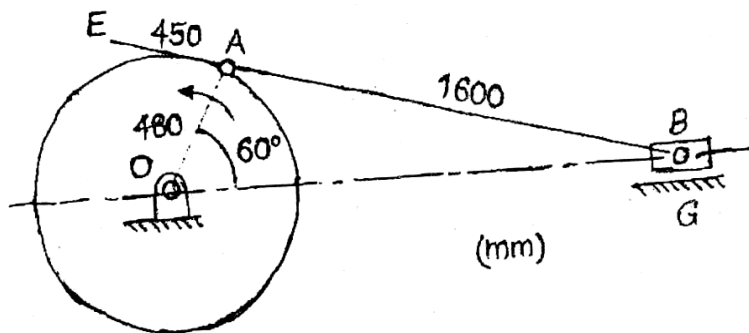

Fig. 12 (a)
- (b) (i) Explain mechanical advantage and transmission angle related to four bar mechanism. (8)
- (ii) Explain the Ratchet and Escapism mechanism with neat diagram. (8)
12. (a) For the configuration of a slider crank mechanism shown in fig.12 (a) Calculate (i) the acceleration of the slider at B (ii) the acceleration of point E (iii) the angular acceleration of link AB. Link OA rotates at 20 rad/s counter clockwise (16)